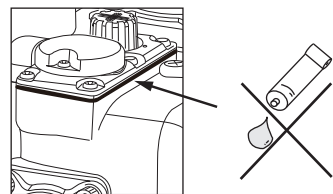

Fig. 3
3.6 Regular maintenance requires opening the prime cover to access the check valve. DO NOT apply any bonded material (such as silicon, glue, etc.) to seal the chamber cover. (See Fig. 3)